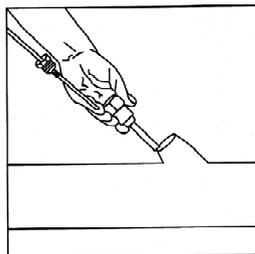

Figure 4. Typical RTD Installation
- 2A** Install the Thermowell into the meter run. Using snap ring pliers, adjust the probe length so that it is spring loaded against the bottom of the Thermowell (See Figure 4).